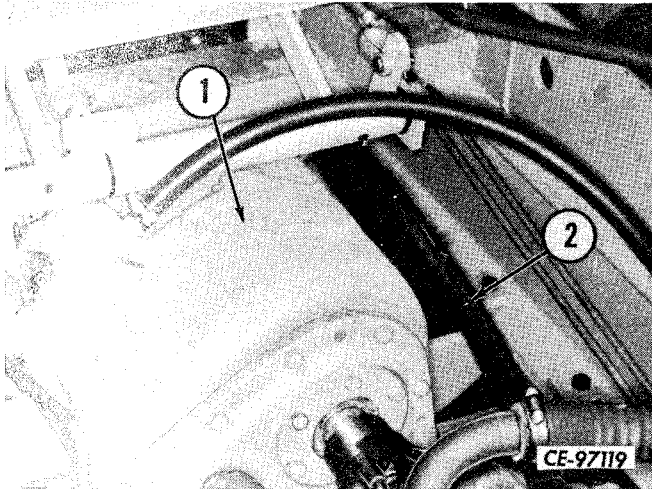

Figure 4-97
Attach converter-to-transmission relief valve hose (2, Fig. 4-97) to transmission (1).